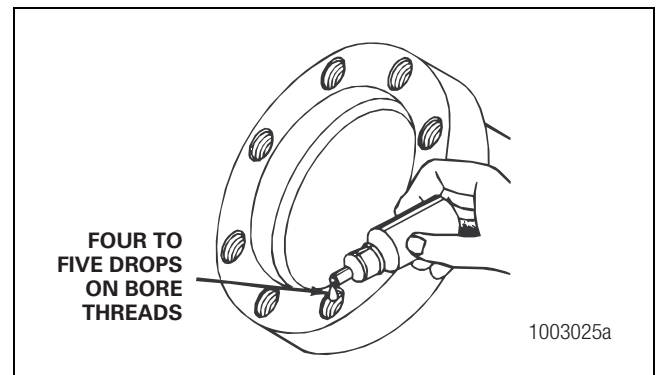

Figure 4.7
2. Apply four or five drops of Meritor liquid adhesive 2297-C-7049, Loctite® 638 or 680 liquid adhesive or equivalent inside each threaded hole or bore. Do not apply adhesive directly to the fastener threads. Figure 4.7.